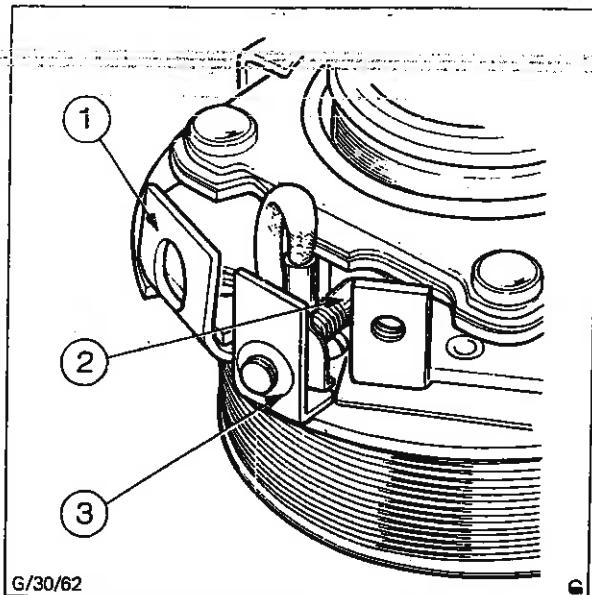

Fig. 22 - Solenoid Terminal and Insulators
5. Place the solenoid terminal, solenoid terminal insulator, and main terminal insulator on solenoid assembly as shown in Fig. 22.
- (b) When this has been done, push the armature towards the commutator end of the machine as shown in Fig. 22, and again measure gap 'X', which should now be within the limits $2,03 + 0,50 - 0,00$ mm ($0,079 + 0,02 - 0,00$ in) using Tool No. 6244-4 go/no-go gauge.